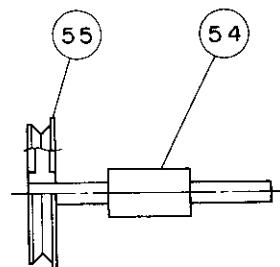

Figure 15
Pressing insert the Pulley (55) to the Worm Gear (54) so that the left end of the worm gear will be on the same level as the face of the smaller circle in the pulley (Fig. 15).